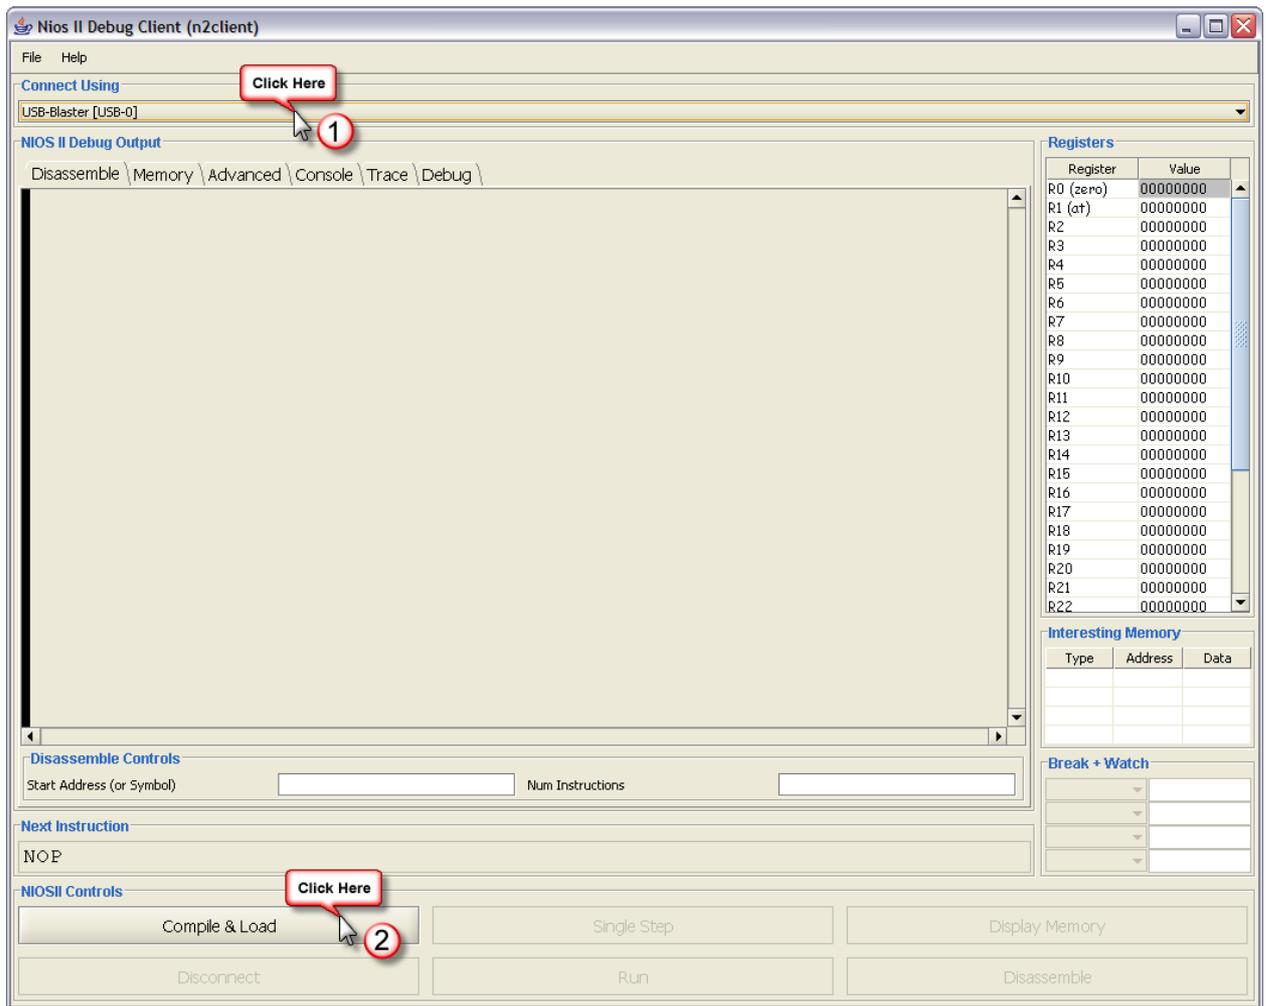

Figure 8: Nios II Debug Client.
After a few seconds, the Nios II Debug Client window will appear. The startup screen is shown in Figure 8.
1. As shown in Figure 8, the first step (highlighted with the circled 1) involves selecting the cable that will be used to communicate with the DE2 Development and Education board. This cable should have a name similar to *USB-Blaster [USB-0]*.